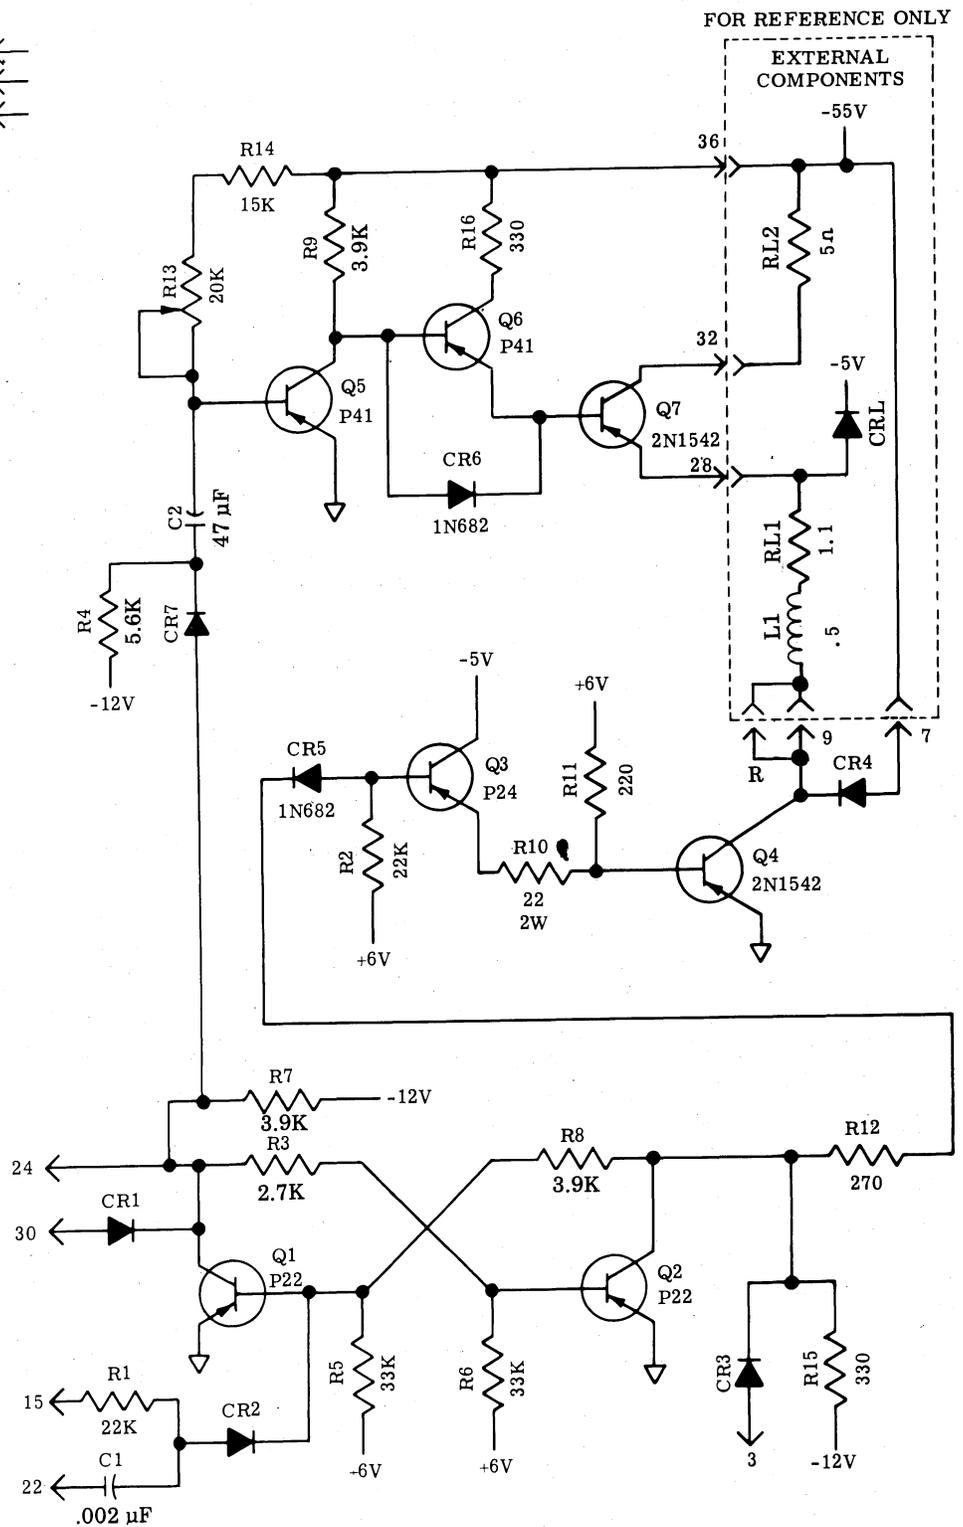
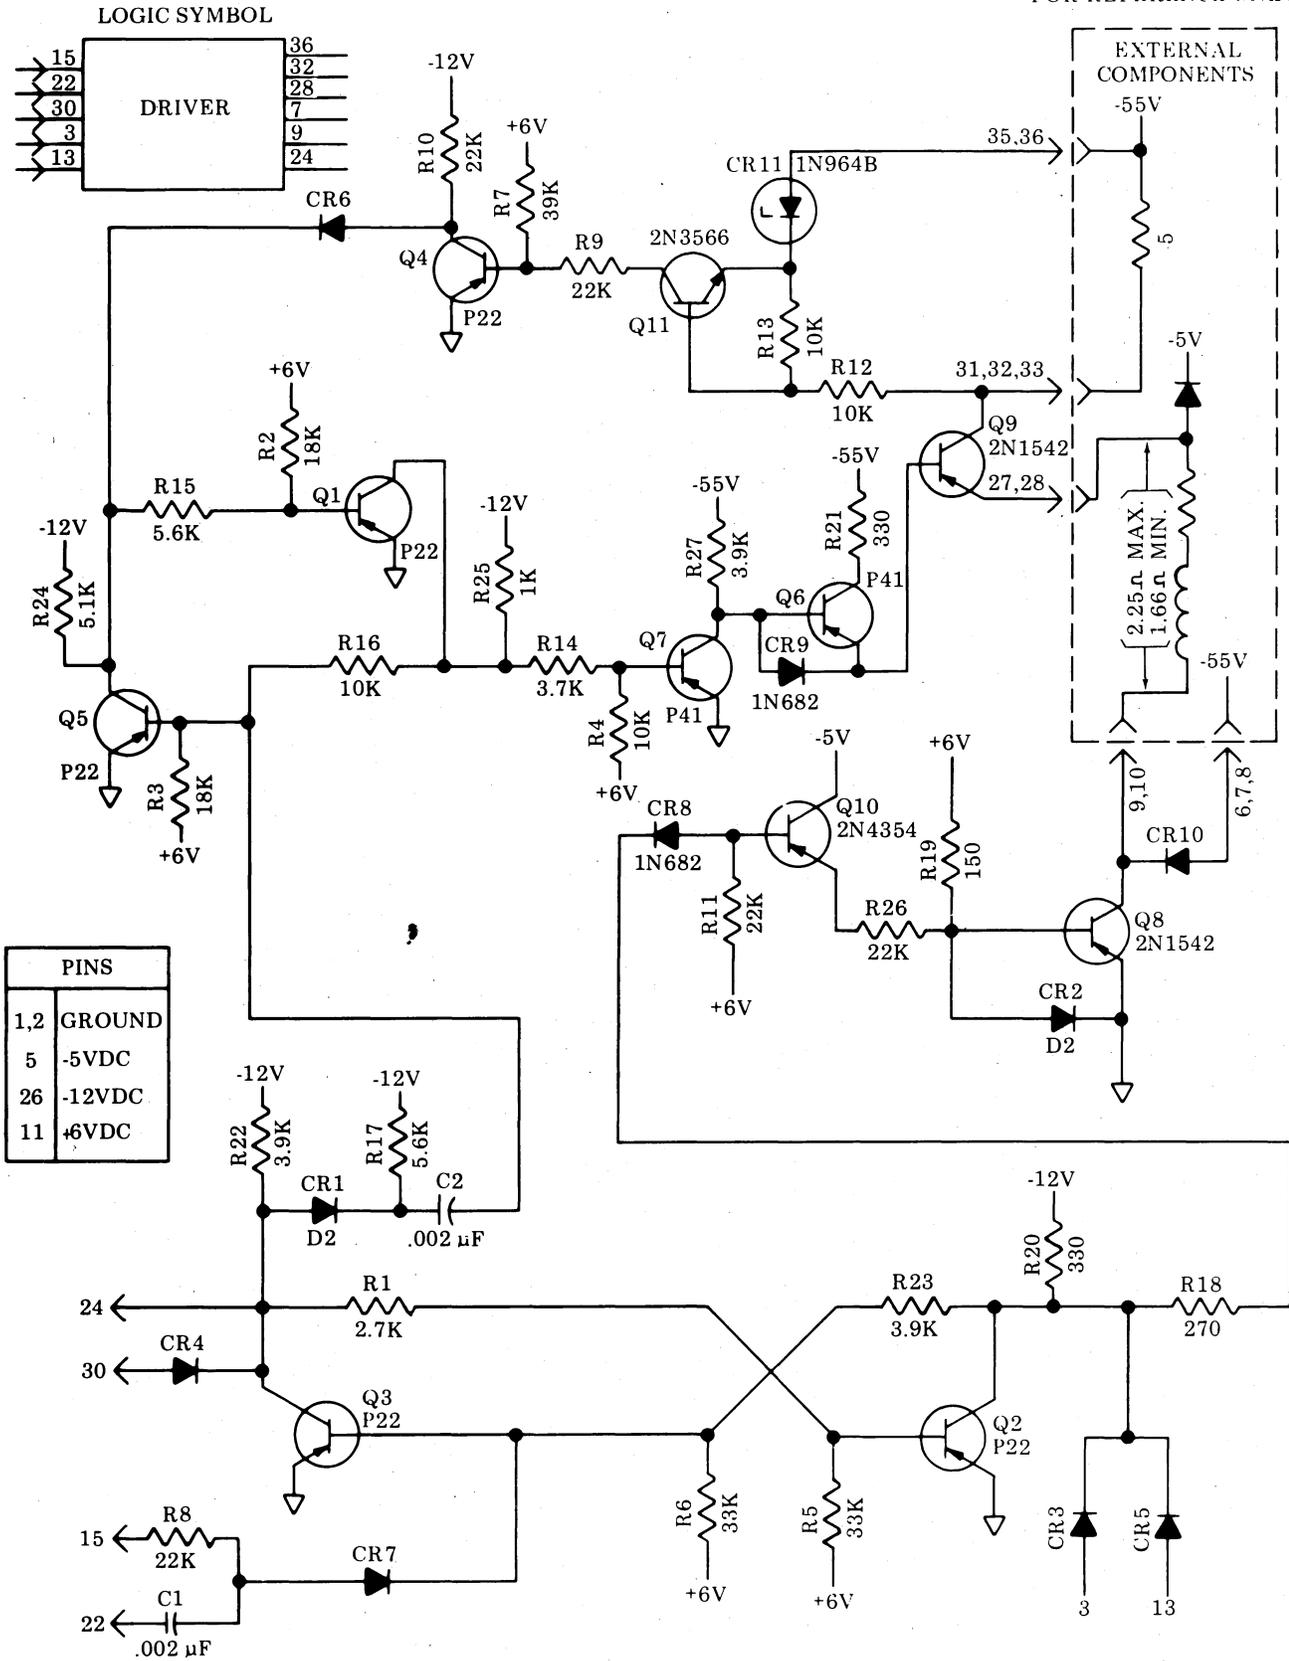

Figure 7 - Magnet Driver Circuit Card (EC678)
Figure 8 - Magnet Driver Circuit Card (EC730)
3.19 In the reset condition, each magnet driver and its associated magnet is energized. When a character sample is received at P110, pin 6, it is inverted by Z103W (EC605) and then applied to integrator pulse shaper Z113B to remove any line noise. The output of the integrator pulse shaper (Figure 6) samples all magnet drivers (Figure 7 or Figure 8). Each magnet driver that is primed to mark (0 volt on pin 15) opens the current path to its associated magnet. This causes its corresponding reed to release and punch tape.